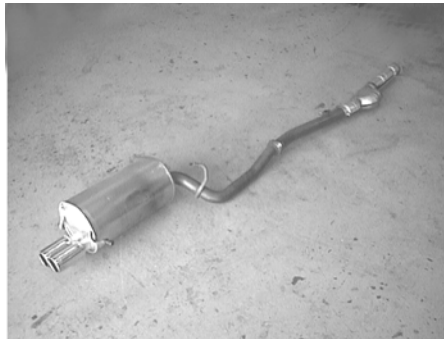

Figure 2
4. Remove the old exhaust system shown in figure 2 from your vehicle.